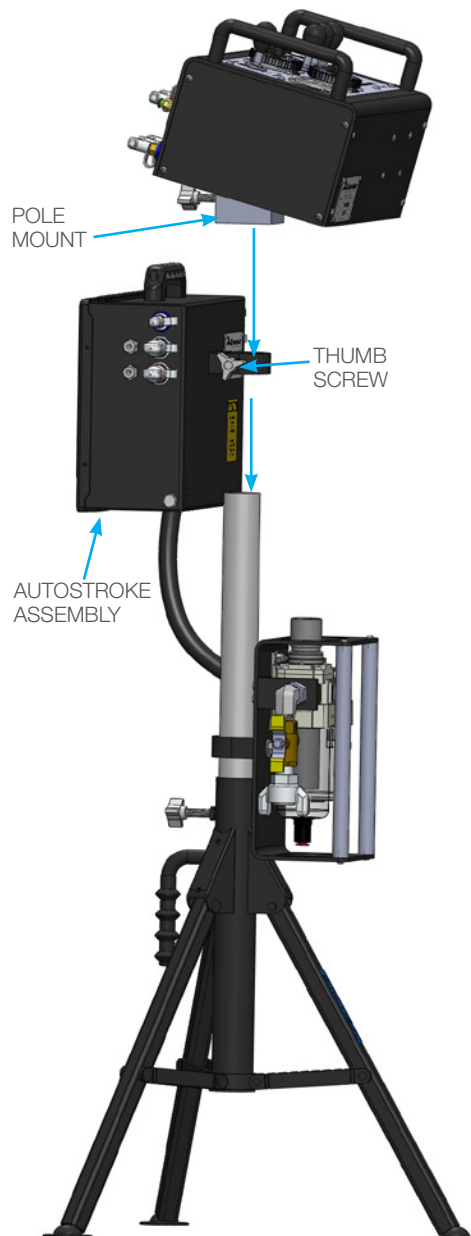

FIGURE 2
2. Slide the AutoStroke Assembly onto the Mounting Pole, with the Decal side facing away from the FRL. Then hand tighten the Thumb Screw. Then slide the Control Assembly back onto the Mounting Pole. Then hand tighten the Thumb Screw to secure the Control Assembly to the Mounting Pole. **(Figure 2)**